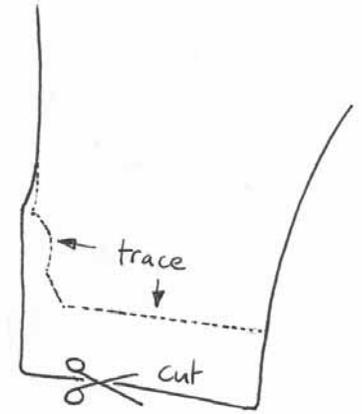

Figure 11
- B. Cut through the pattern paper and the fabric along the line except for the bottom of each piece which should be cut longer than the pattern calls for, by about 1.5 cm (1/2 in.), to allow for possible differences in the lengths of the pieces, as shown on **Figure 11**.
- C. Remove the pins and pattern paper. Trace a line in tailor's chalk or pen where the cut line would have been, as shown in **Figure 11**.